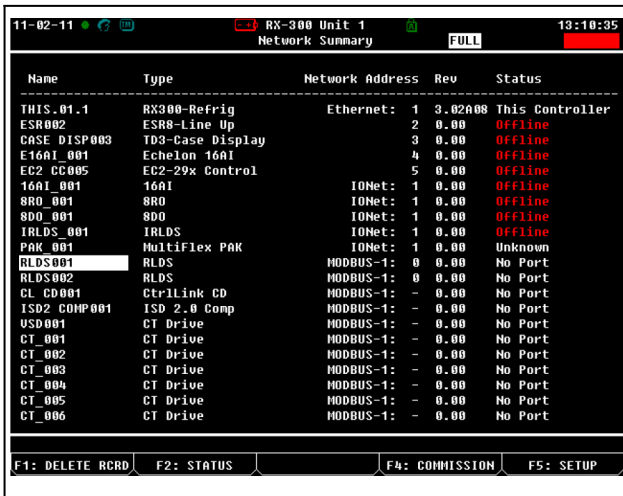

Figure 4-5 - Network Summary Screen
4. Press to return to the **Network Setup** menu, then select **1** - **Network Summary** (Figure 4-5).